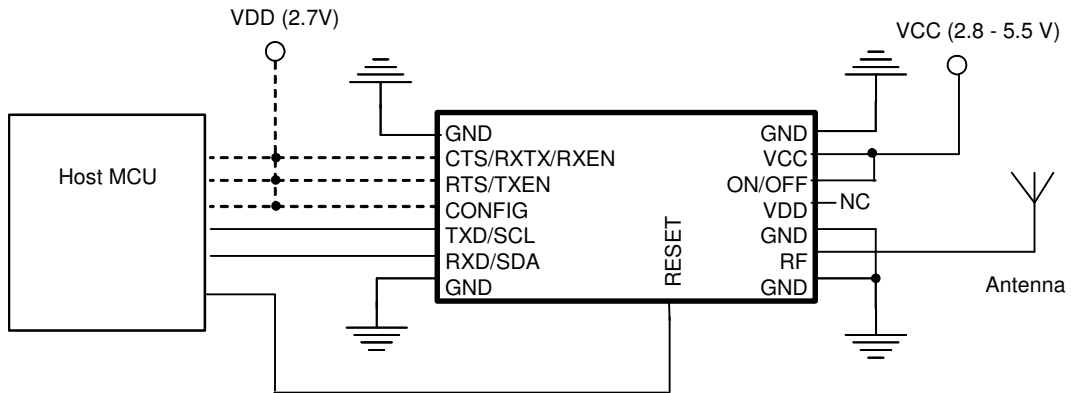

Figure 1. Reset circuit using host MCU
- Control the RESET pin by a separate I/O pin from the MCU (RESET has an internal 10k series resistor and a 100k pull-up to VDD). Set RESET low before ON/OFF is turned low, and keep low until ON/OFF is high again (VCC – 10%). This will ensure proper power-on reset (POR). See Figure 1 below.